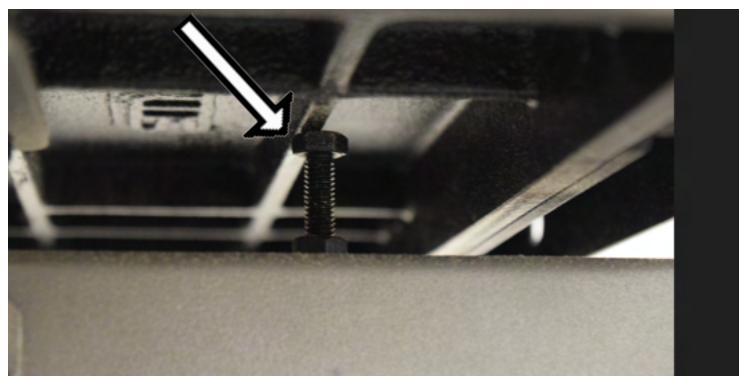

Fig. 41
8. Retighten the table rest locking nut, ensuring the 90° table angle setting is maintained (FIG. 41).